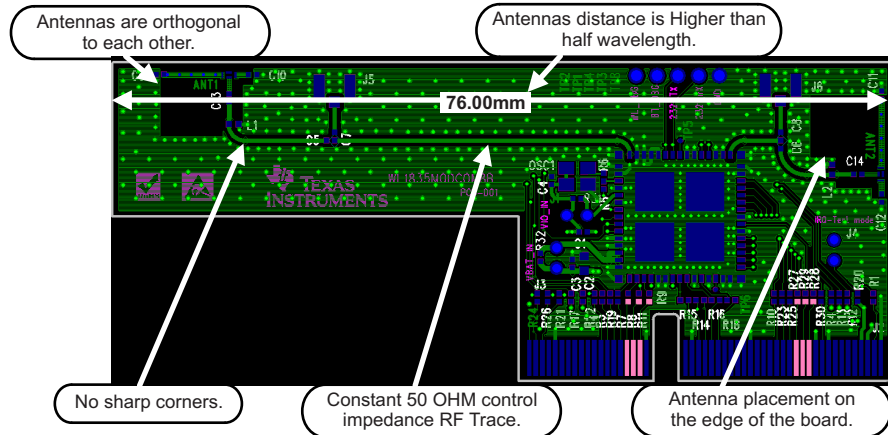

Figure 7-2. Location of Antenna and RF Trace Routing on the TMDXWL1837MODCOM8T Board
Figure 7-2 shows the location of the antenna on the WL1837MODCOM8 board as well as the RF trace routing from the (X)WL1837 module (TI reference design). The TDK chip multilayer antennas are mounted on the board with a specific layout and matching circuit for the radiation test conducted in FCC, CE, and IC certifications.